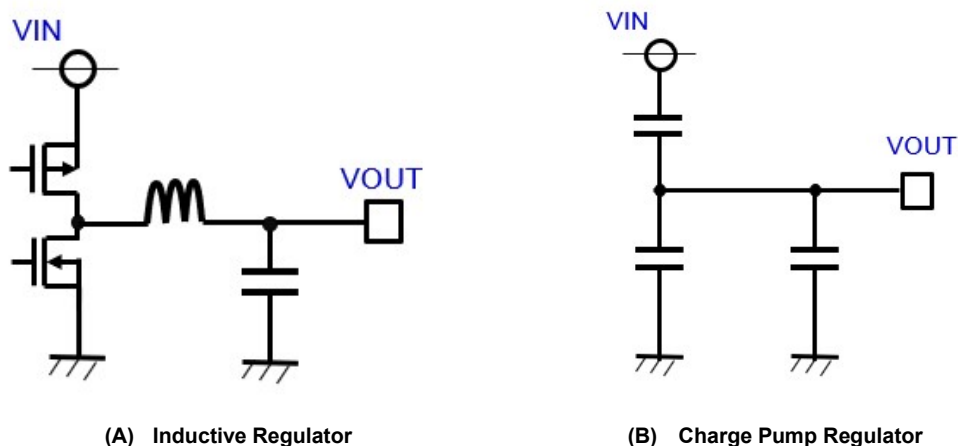

Figure 27. Inductive regulator and Charge pump
Figure 27(A) shows an inductive regulator called a buck converter. There is an inductor between switching node to VOUT, so it would be prevented transient change of current when a hard short happened.
For Figure 27(B), it would be high di/dt condition with a hard short because MYC0409 does not have a large inductor but has low impedance of power FETs. In general, inductance would be reduced the current slope of inductor and impedance power FETs would be reduced peak current. Therefore, "Hard Short Circuit Condition" is written as bellow.